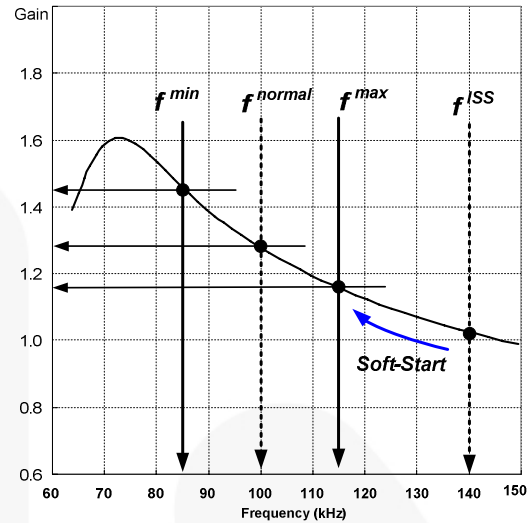
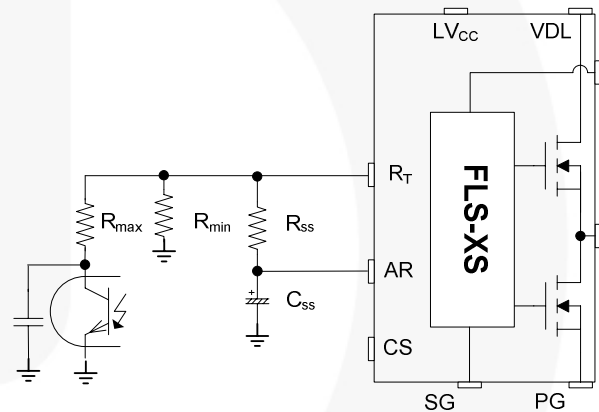
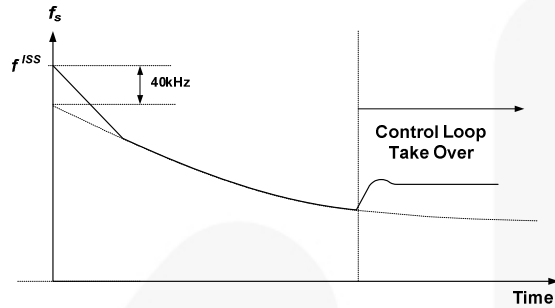

Figure 17. Resonant Converter Typical Gain Curve
Figure 18. Frequency Control Circuit
Figure 19. Frequency Sweeping of Soft-Start
3. Frequency Setting: Figure 17 shows the typical voltage gain curve of a resonant converter, where the gain is inversely proportional to the switching frequency in the ZVS region. The output voltage can be regulated by modulating the switching frequency. Figure 18 shows the typical circuit configuration for the R_T pin, where the opto-coupler transistor is connected to the R_T pin to modulate the switching frequency.
To prevent excessive inrush current and overshoot of output voltage during startup, increase the voltage gain of the resonant converter progressively. Since the voltage gain of the resonant converter is inversely proportional to the switching frequency, the soft-start is implemented by sweeping down the switching frequency from an initial high frequency (f^{ISS}) until the output voltage is established. The soft-start circuit is made by connecting R-C series network on the R_T pin, as shown in Figure 18. FLS-XS series also has a 3ms internal soft-start to reduce the current overshoot during the initial cycles, which adds 40kHz to the initial frequency of the external soft-start circuit, as shown in Figure 19. The initial frequency of the soft-start is given as: